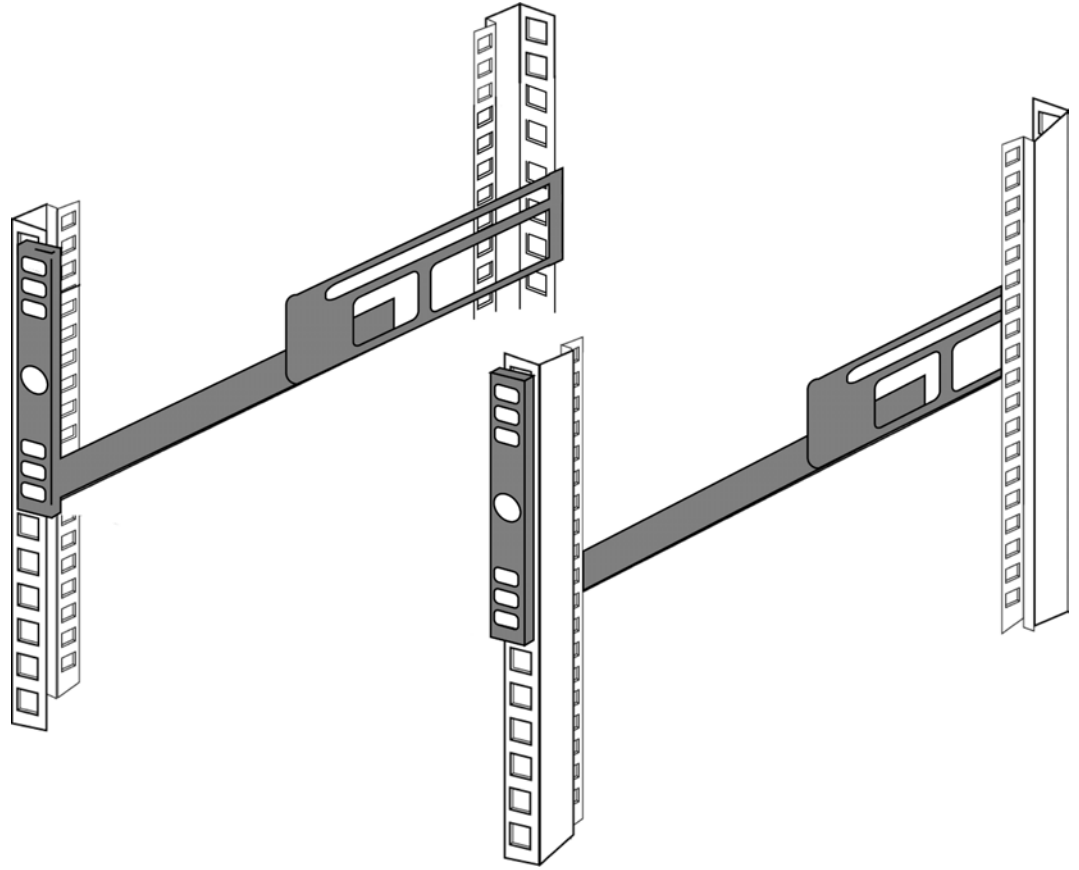

Figure 3-3: Rail Positioning
9. Position the chassis brackets to the rack rails, as shown in Figure 3-3.